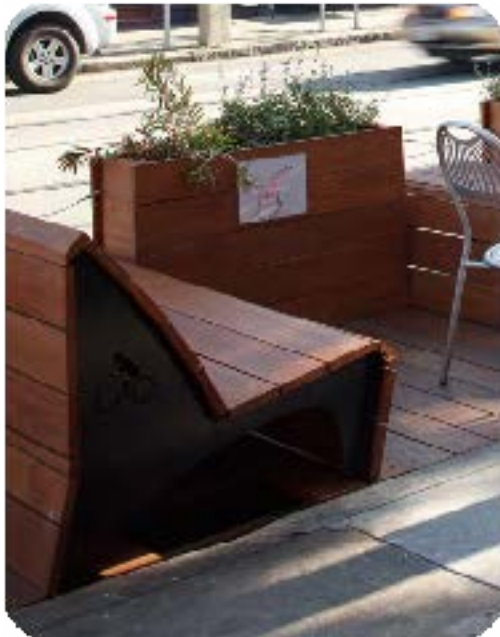

Figure 6. High-quality durable materials
- Materials that are easy to maintain can reduce the difficulty of removing graffiti and the cost of replacing or repairing damaged plants, railings or other elements. Materials with higher up-front costs can reduce long-term maintenance expenses. See figure 6.